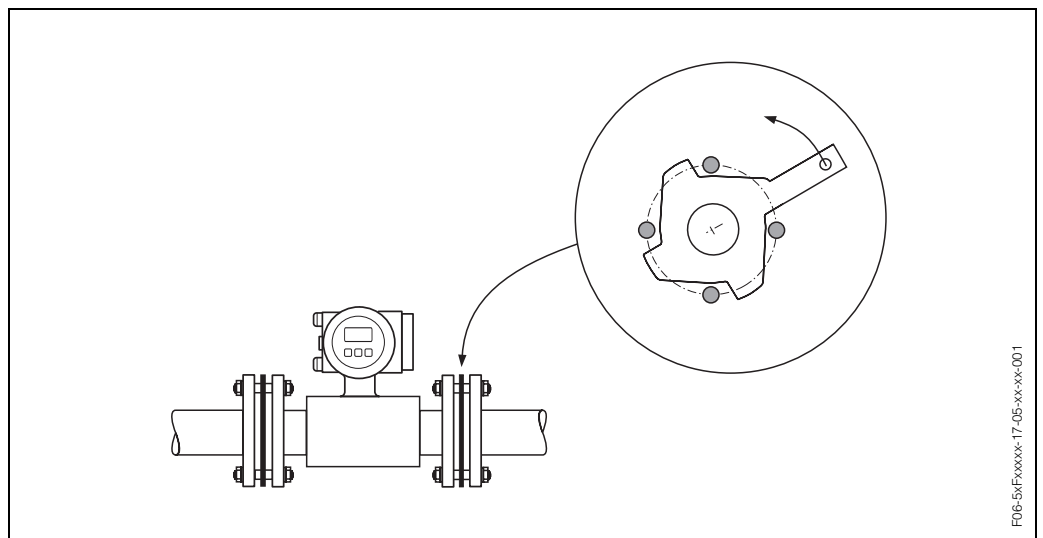

Fig. 17: Assembly with ground disks (Promag W, DN 25...300)
1. Place the ground disk and additional seal(s) between the instrument and the pipe flange (Fig. 17).
3. Now rotate the ground disk as shown in Fig. 17 until the handle strikes the bolts. This will center the ground disk automatically.